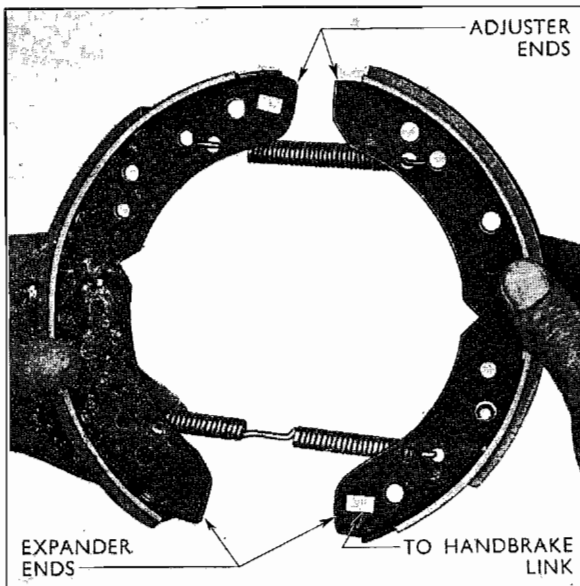

Fig. 9
5. Reassemble the shoes and springs with the springs fitted between the shoes as shown in Fig. 9.